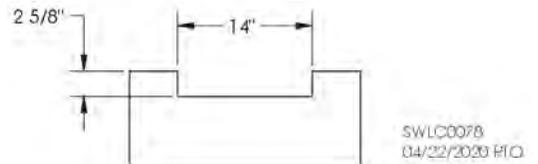

Fig. 11 – Trench dimensions for 12" conv. w/ 13-1/4" supports
**NOTE:** 12" system requires 15-7/8" or 17" floor supports unless conveyor is installed in a trench. See Fig. 11.